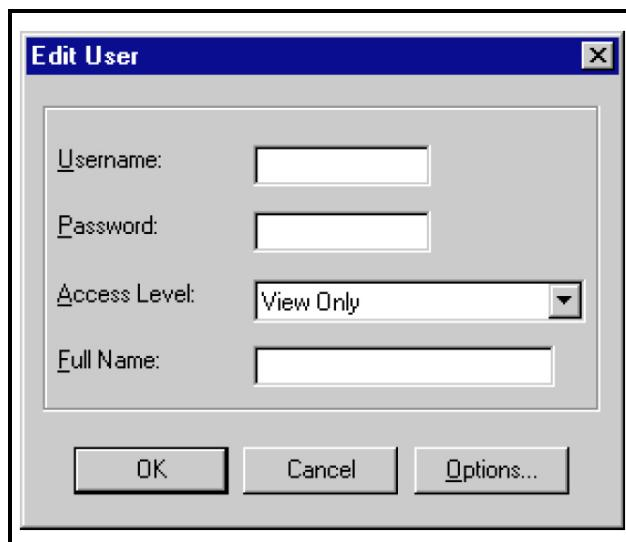

Figure 2-3 - Edit User Dialog Box
2. Select the word USER from the Users list and press the Edit button. The Edit User dialog box (**Figure 2-3**) should appear.